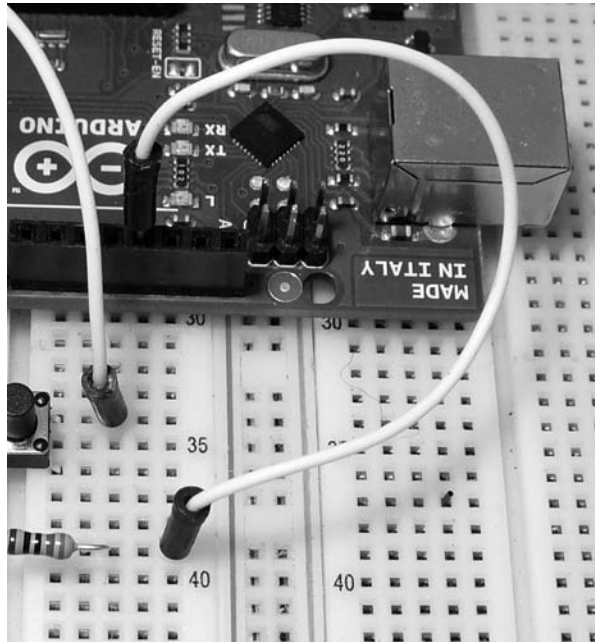

Figure 4-25: Connecting the LED branch to the Arduino
6. Connect a wire from the right side of the 560 Ω resistor to Arduino digital pin 12, as shown in Figure 4-25.